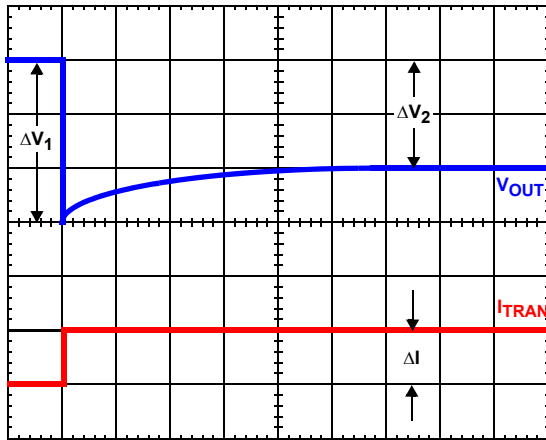

FIGURE 23. TIME CONSTANT MISMATCH BEHAVIOR
Due to errors in the inductance or DCR it may be necessary to adjust the value of R_1 to match the time constants correctly. The effects of time constant mismatch can be seen in the form of droop overshoot or undershoot during the initial load transient spike, as shown in Figure 23. Follow the steps below to ensure the R-C and inductor L/DCR time constants are matched accurately.
2. Record $\Delta V1$ and $\Delta V2$ as shown in Figure 23.